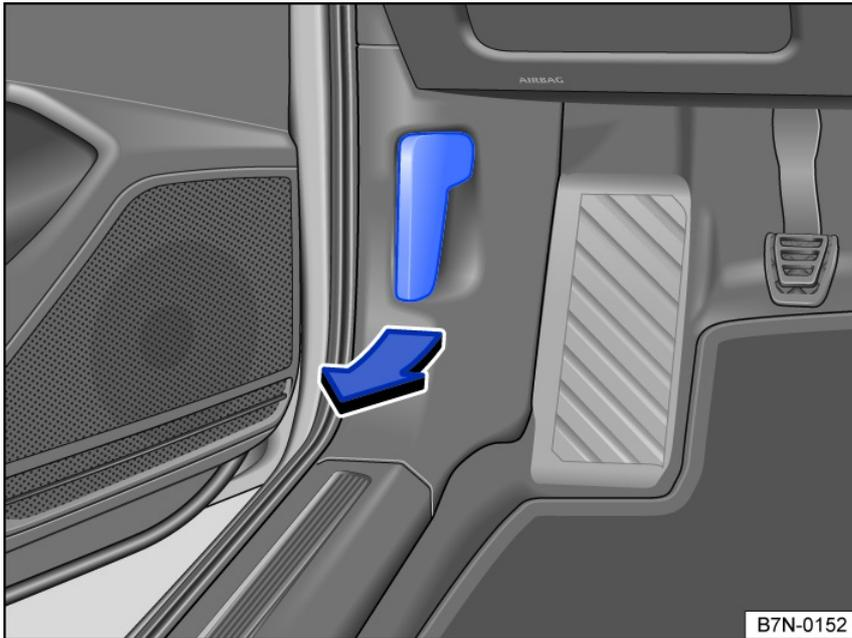

Fig. 189 In the driver's side footwell: release lever for the hood.
- Open the driver's door and pull the release lever in the direction of the arrow *fig. 189*. The hood will pop open due to spring force from the locking mechanism in the lock carrier ⇒ ⚠.
- Lift the hood, press the opening lever, and open the hood all the way *fig. 189*. The hood is held open by the gas-filled strut.